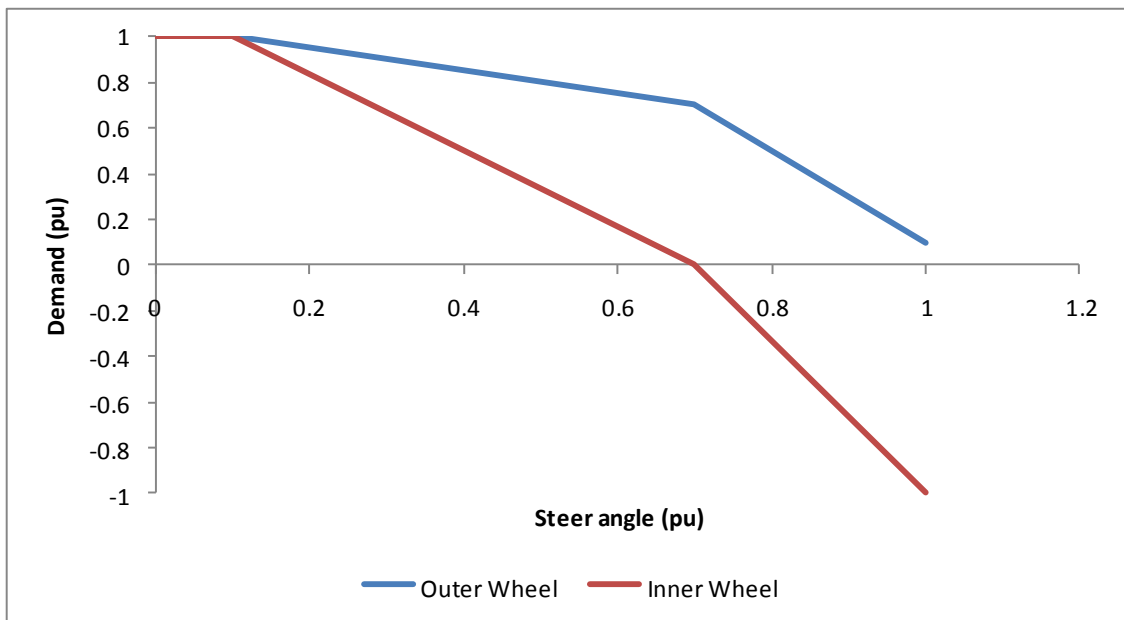

Figure 31 Graph of speed vs. steering angle
- Setup the steering map. This map defines the relationship between the inner and outer wheel speeds and the steering angle. Each map has 4 user definable points as shown in Figure 31.